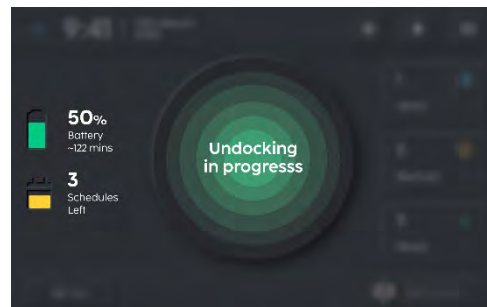

Fig. 10
7. When charging is complete. Select the blue 'Undock' button to remove robot from station (Fig 10).